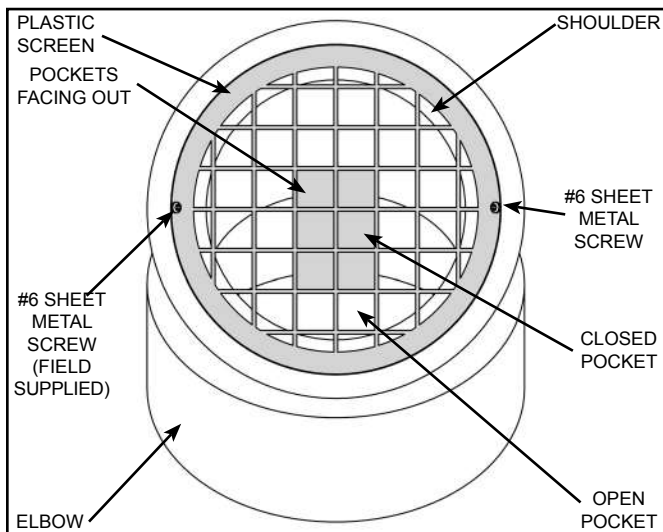

Figure 34.
- Plastic screens must be secured with two (2) corrosion resistant sheet metal screws as shown in Figure 34. This will allow for easy removal for inspection and cleaning.